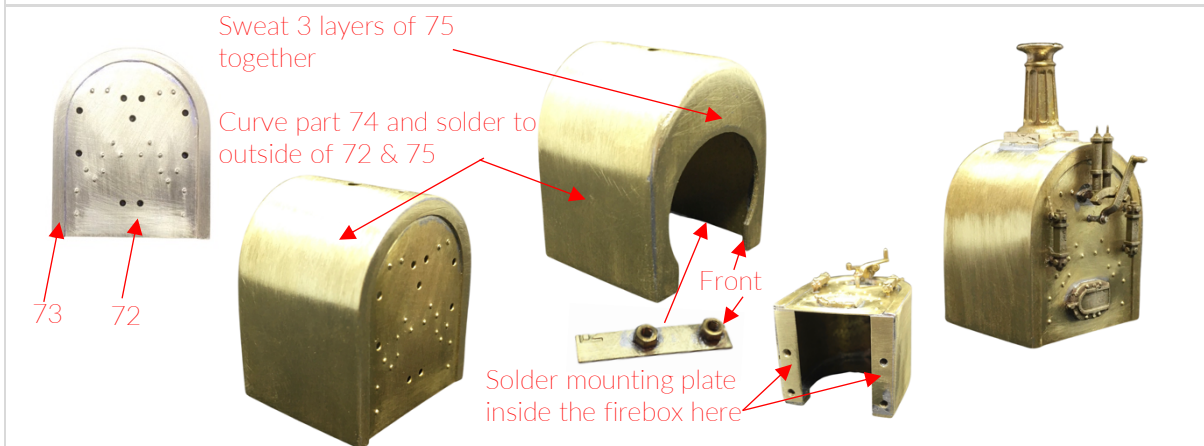

Fig 2.8 – The firebox & backhead
2.8 – Firebox. Punch out the rivets on the backhead (72), and solder the backhead surround (73) around to it. At this point, the casting details can be added: the safety valve cover (#C07 for the earlier cover, or #C08 for the later cover), the regulator bracket/salter springs (#C09), firebox door (#C11), gauge glasses (#C12 – Left, #C13 – Right) and regulator handle (#C14). Use a short piece of 1mm wire to attach the regulator handle. The castings can be left until later if you wish, but access to solder from the rear of the backhead is much easier before the firebox is all put together. Sweat together the 3 layers of the front of the firebox (75). Bend the firebox wrapper (74) around a suitable cylinder to match the curve of 72 & 75. Solder the wrapper across the top of 72 & 75. Note that there are small triangular markers on the wrapper – a central marker to align centrally with the apex of 72&75, and two further markers to align with the end of the curve/beginning of the straight section. To enable the loco to be dismantled for painting, the firebox (and smokebox) are screwed onto the footplate. The fixing brackets (69, left & 70, right) need a 10BA nut soldering centrally over the holes. The flat side of the nut needs to be parallel to the firebox wrapper. Now solder the fixing brackets (nuts inside the firebox) within the firebox, flush with the bottom. With the structure complete, round off the front edge of the firebox with a file. Do the same for the back of the firebox around the backhead surround (73) but with a smaller radius. Lastly, solder the lubrication heating valve (#C15) into the small hole at the front of the firebox wrapper, and connect to the tank with 0.7mm wire, as per the GA drawing. (Fig 2.8)